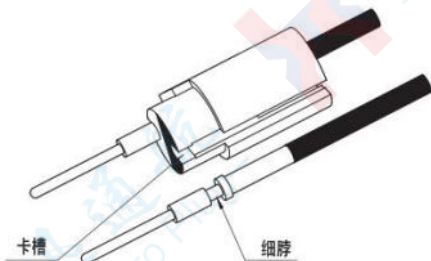

Figure 1.8: The thin neck of the center pin is snapped into the slot of the crimp insulator
1) Snap the thin neck of the crimped center pin into the slot of the crimp insulator. Install the conductor corresponding to contact definition No. 2 into the slot with the blackened edge of the crimp insulator, as shown in Figures 1.8 and 1.9.